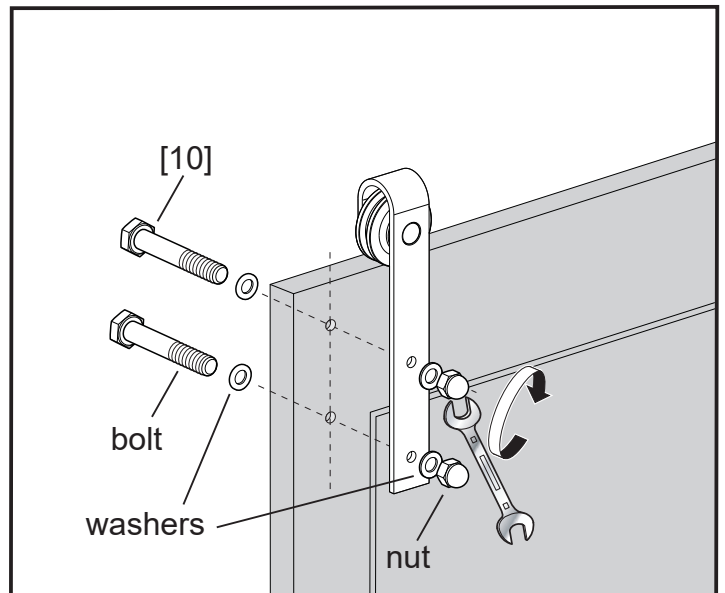

Fig 4
1. Install **Top Mount Rollers [09]** to one side of the door and secure it with **Bolt assembly [10]** using 16mm & 17mm Wrenches as figure shows. (Fig 4)